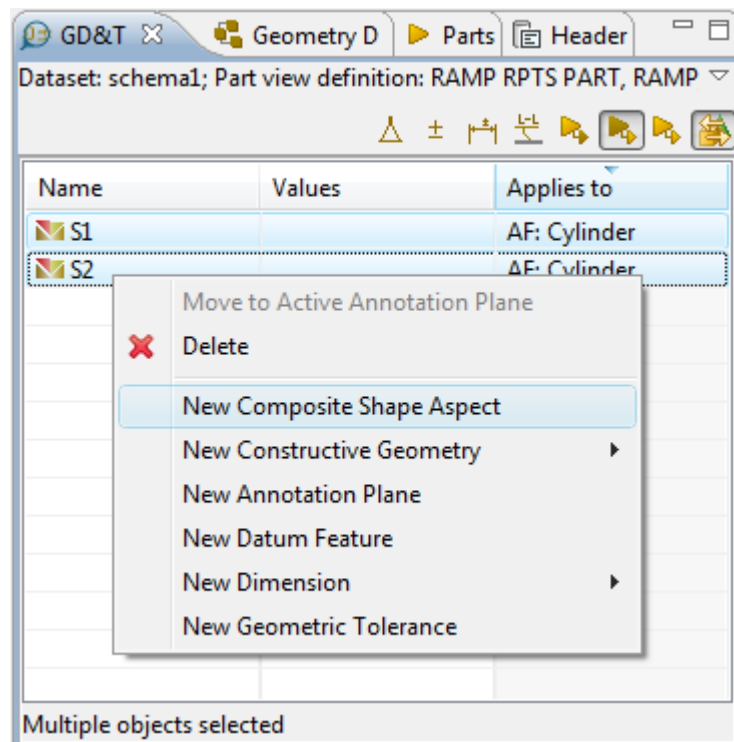

Figure 1. Selected two shape aspects and New Composite Shape Aspect menu item
- Right click and select **New Composite Shape Aspect** menu item in the appeared context sensitive menu (see Figure 1).